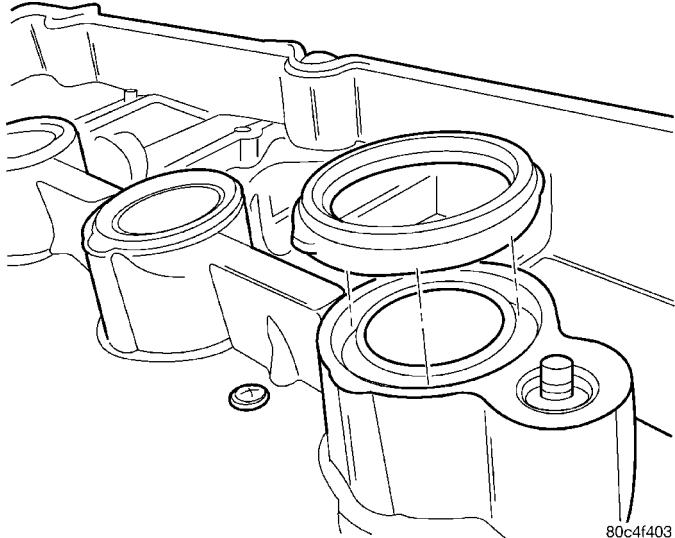

Fig. 30 Spark Plug Well Seals
- (1) Install new cylinder head cover gaskets and spark plug well seals (Fig. 30).